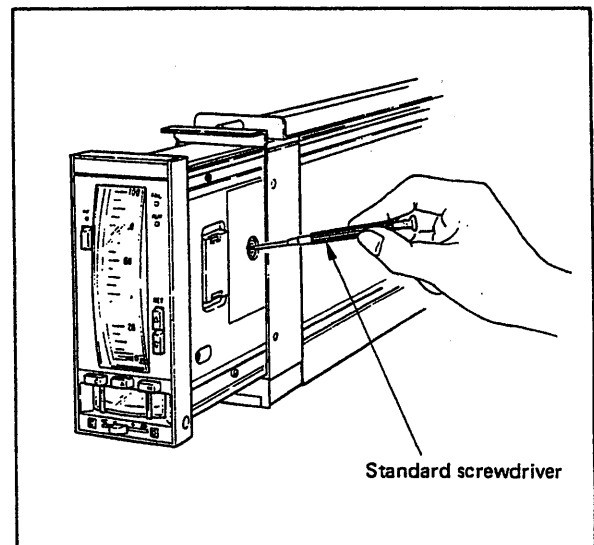

Figure 6-2-2. Adjusting Zero Point of Process Variable Indicator.
- (2) Adjust using the same procedure as described in the process variable indicator (6-2-2). Figure 6-2-2 shows zero point adjustment for set value indicator.